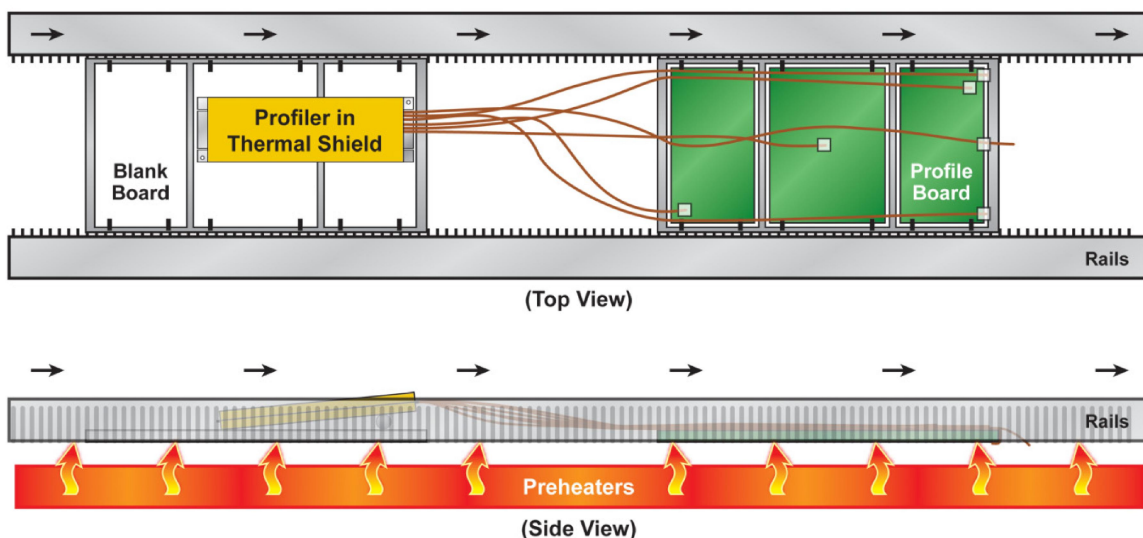

Figure 88: Profiling Wave Solder Using a Profiler
- During the profile, you can run the profiler in front or behind the profile board. See Figure 88.
- Run the thermal shield upside-down to prevent any solder from contacting the profiler. See Figure 88.
- It is helpful to raise the profiler thermal shield at least 1/8" to 1/4" off the carrier board/palette in order to prevent any liquid solder from entering the thermal shield. See Figure 88.